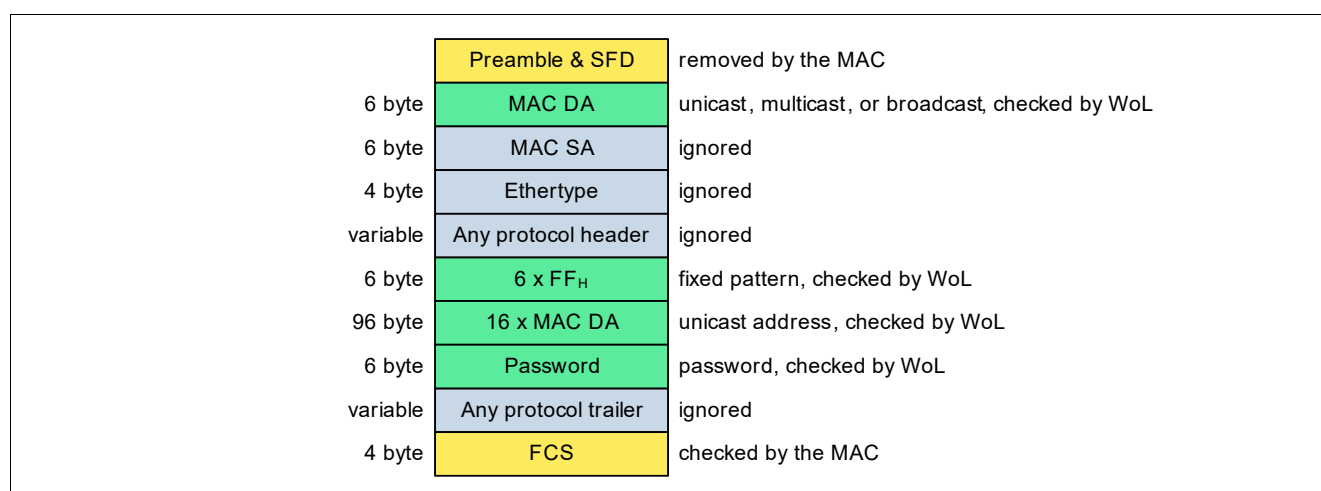

**Figure 46 Typical Magic Packet Data Structure**
**Figure 46** shows the typical Layer-2 magic packets structure. However the fixed pattern followed by the specific unicast address and an optional password can appear in any field location in a packet, including Layer-3 part.